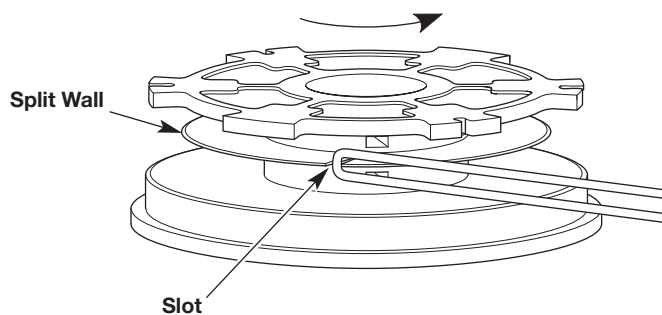

Fig. 14
2. Insert the loop into the slot in the split wall (Fig. 14). Wind the line tightly in the direction shown on the bottom of the inner reel until about 6 inches (150 mm) of line remains. Keep the top half of the line above the split wall and the bottom half of the line below the split wall.